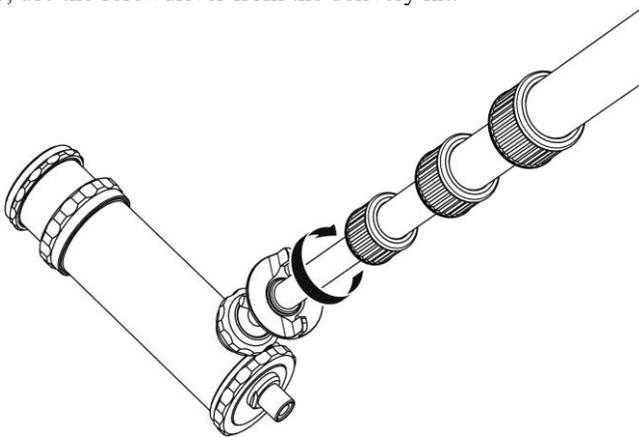

Figure 2.8 – Fixing telescopic rod to BG probe
2.2.5.4 Screw the telescopic rod on the holder of BG probe (Figure 2.8). If necessary, use the screwdriver from the delivery kit.